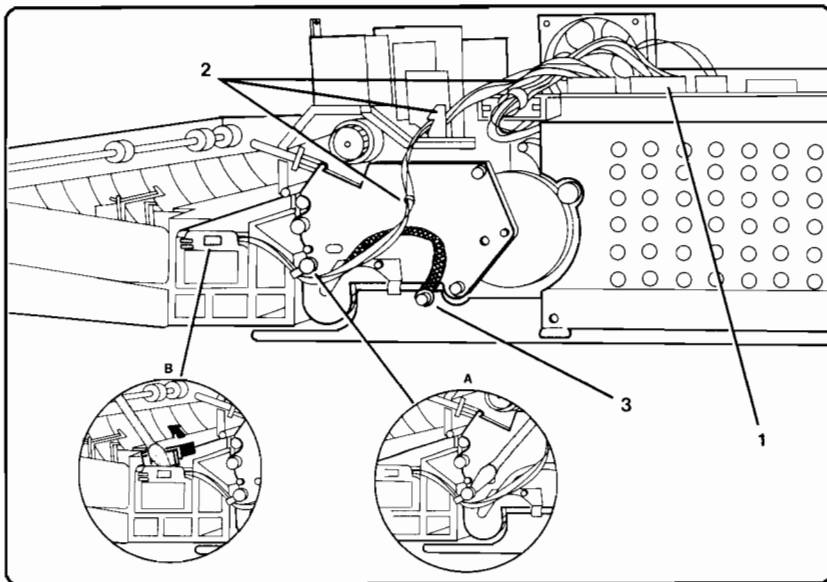

Figure 6-74. SL1 Removal (continued)
11. Unplug connector J209 from the DC Controller (see Figure 6-74, callout 1).
12. Remove the cable from its clamping brackets (see Figure 6-74, callout 2).
13. Remove the screw (1) securing the grounding cable (see Figure 6-74, callout 3).
14. Unclamp the Cable Clamp using a small flat-head screwdriver and remove the cable (see Figure 6-74, detail A).
15. Unclip and remove the Cable Retaining Bracket using a small flat-head screwdriver (see Figure 6-74, detail B).
Ensure that the cable is routed correctly before reinstalling the Cable Retaining Bracket (see Figure 6-74, detail B).